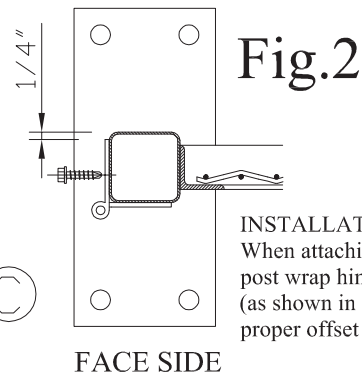

Fig.2
4. Attach opposite end of panel (B) to second post (C)
- a. Per Fig 2 for run post, or